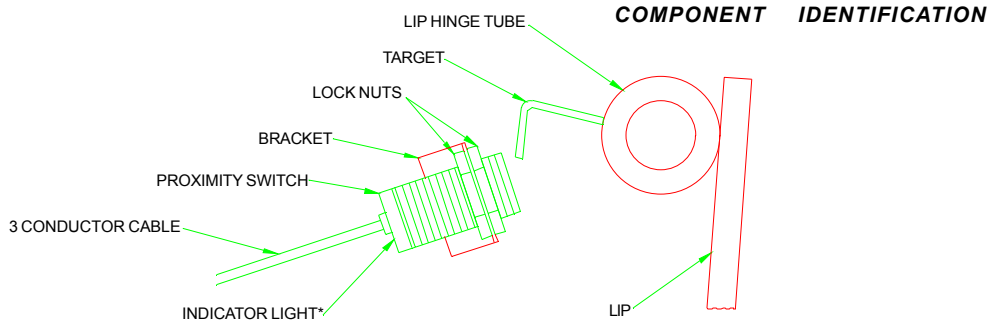

Figure 13
Your dock leveler may be equipped with Auto Return to Dock. Auto Return to Dock is an operation available on E Series dock levelers that will automatically reposition the dock leveler into the stored, cross traffic position after the truck departs. This option utilizes a switch under the dock leveler and a target fastened to the lip. See Figure 13.
\* Figure 13 shows the indicator light at the back end of the housing. Some switches have the light in the side of the housing.
1. Lubricate the unit as shown in figure 13. Failure to properly lubricate the unit will cause abnormal operation of the unit.